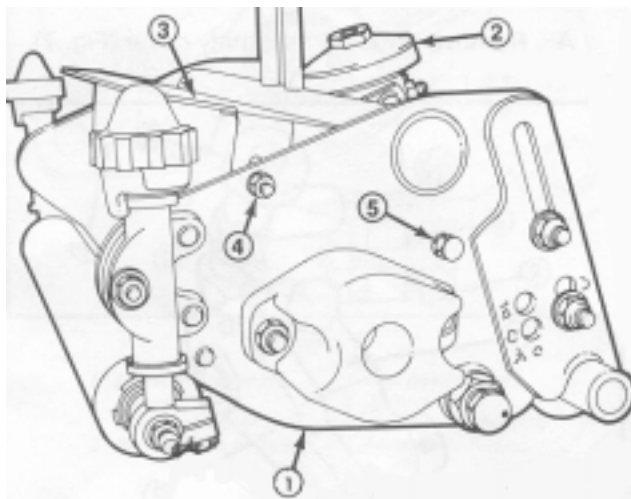

Figure 1
1. Remove grass shield assembly. On all units, save the (2) hex head capscrews, (4) flatwashers and (2) locknuts for reuse (Fig. 1 & 2). Discard the two pivot screws and lockwashers on SPA units (Fig. 1).